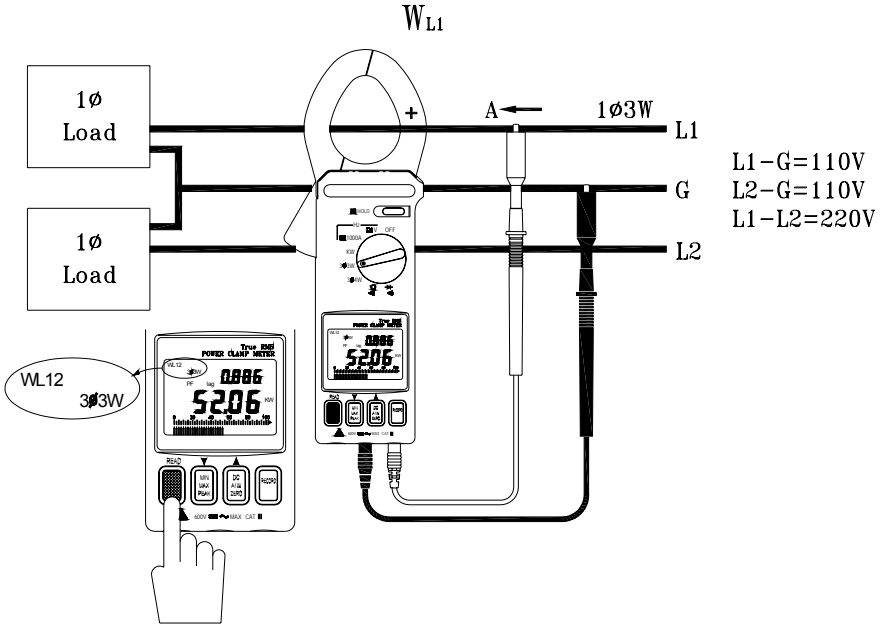

Figure 11
A. Measure $W_{RS(L1G)}$ (refer to figure 11).